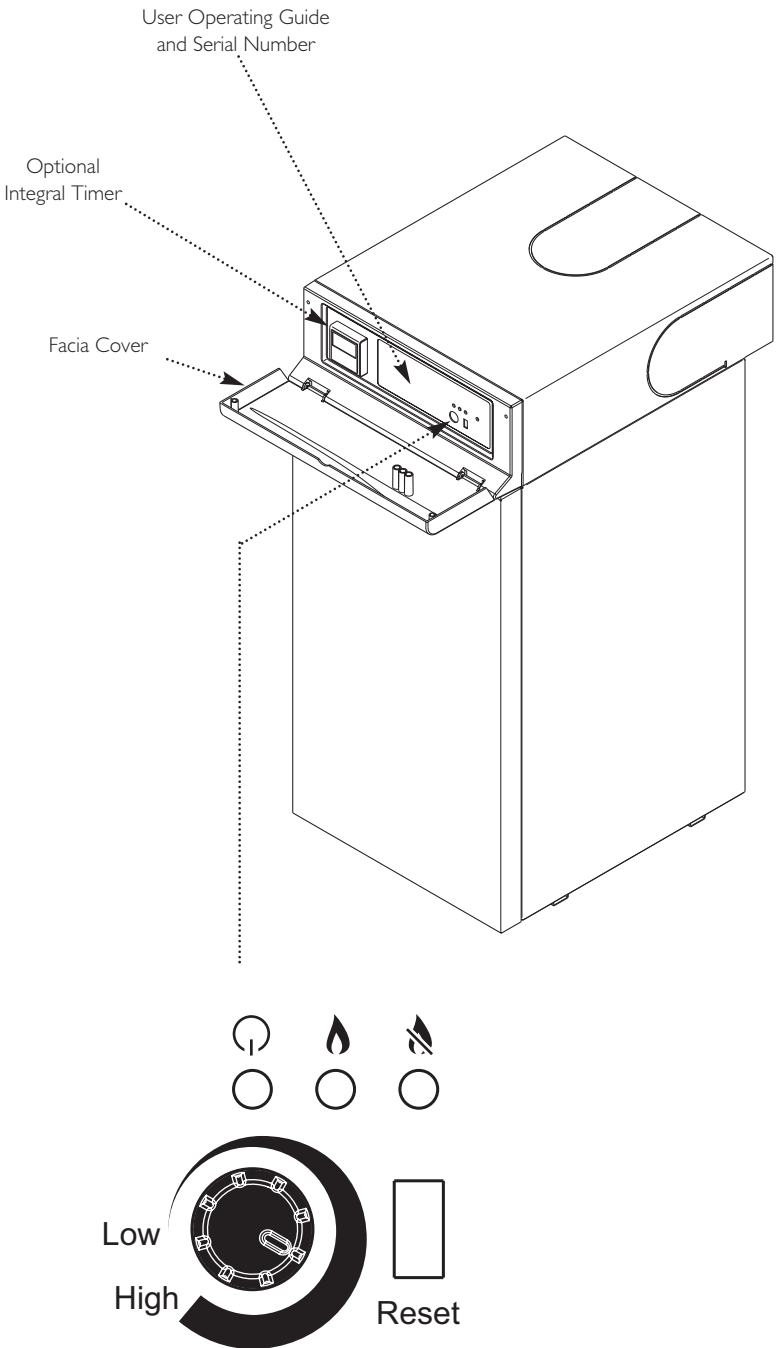

Fig. 1
1. Hinge down the facia cover (Fig. 1).
2. Turn on the main gas and electricity supplies to the boiler. The Mains On light (Ⓢ) will illuminate green (Figs. 1 & 2).
3. Set the central heating control knob to the required setting (Fig. 1). (The optimum boiler setting depends upon type of system, external controls and your requirements. Your installer will be able to advise you on this matter.)
4. When the system control(s) call for heat the fan will start to run and after a short period the ignition spark will commence. Sparking will continue until the flame is established then stop automatically. Check that both the Mains ON light (Ⓢ) and Boiler ON light (🔥) are illuminated green (Figs. 1 & 2).